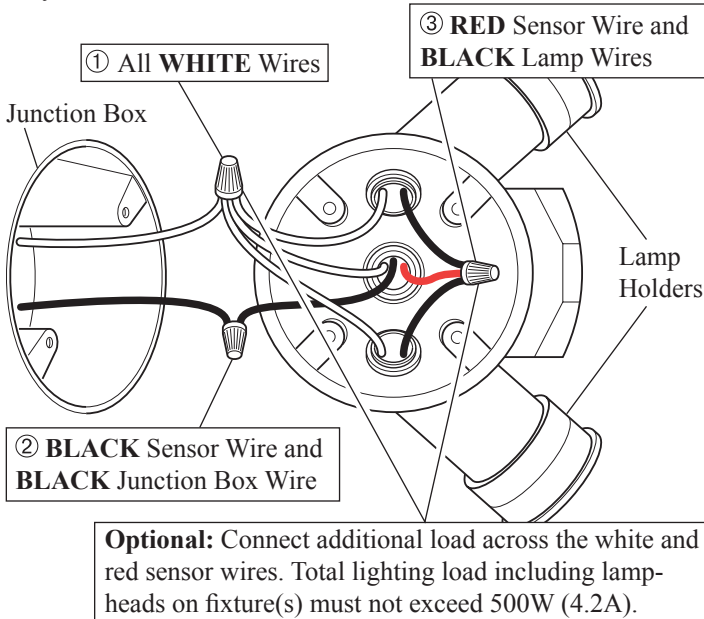

Figure 1 - Wiring Sensor Head
2. After screwing the sensor into the wall plate, connect the junction box wires to the light control wires as shown in Figure 1: